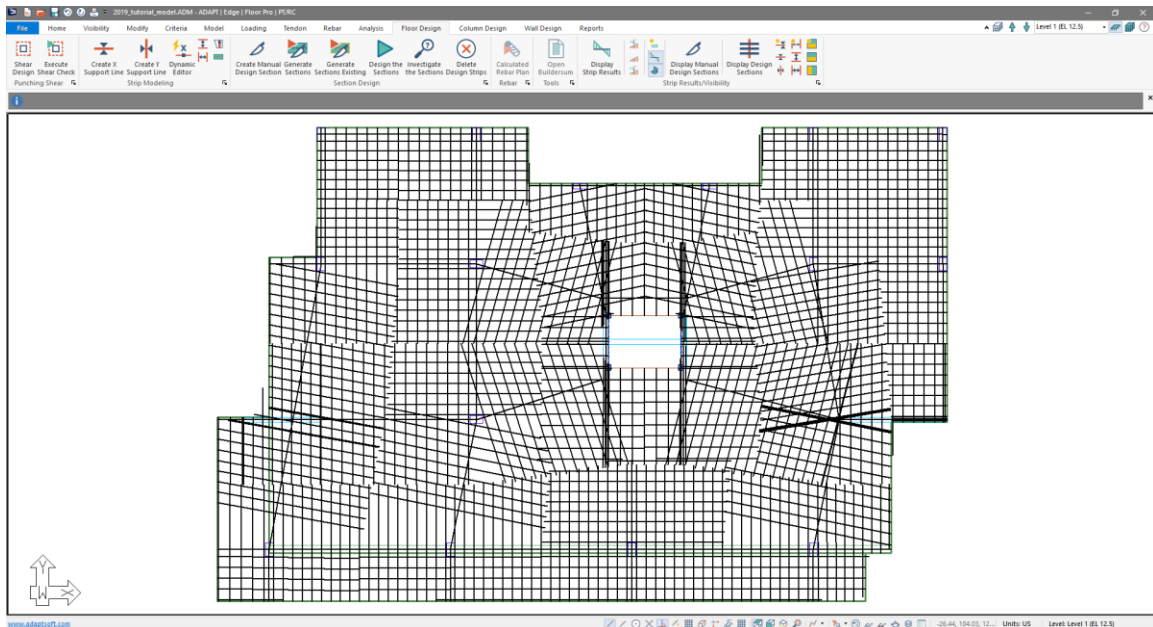

Figure 9-37
- Go to *Floor Design* → *Section Design* and click on the *Generate Sections New* icon. When the process is completed the user should see design sections cut as shown in **FIGURE 9-37**.